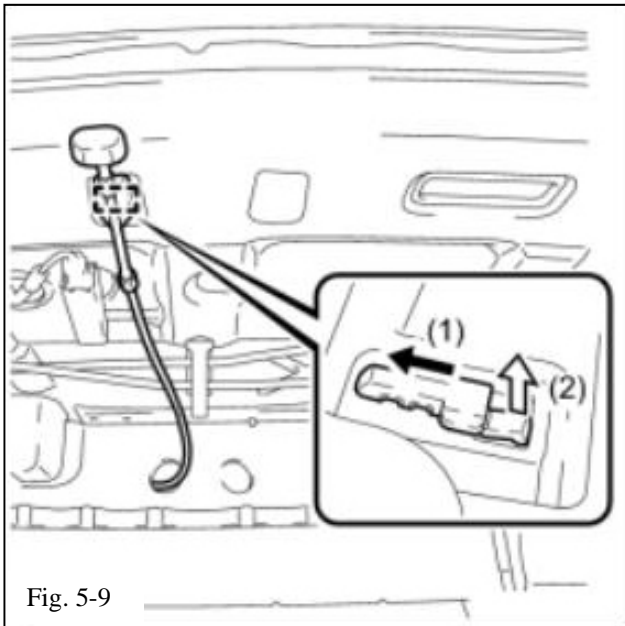

Fig. 5-9
- (i) Connect the rear seatback lock assembly LH (rear seat lock control cable LH) and engage the hook in the order indicated in the illustration (Fig. 5-9).